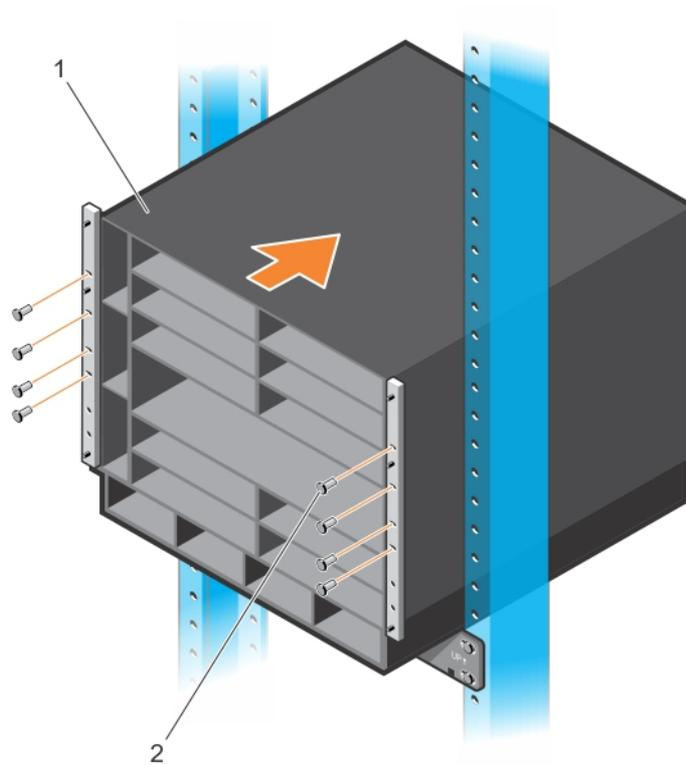

Figure 4. Mounting the Chassis into a 2-Post Rack
- 5 Use an equipment lift or two people to lift the empty chassis without blanks (item 1 in Figure 4) and align the rack-mount screw holes on each flange of the chassis with the holes in the equipment rack. Rest the chassis on top of the rack bar (or rack tray, if installed). Slide the chassis so that the holes in the side flanges align with the holes in the rack posts. Tighten four rack screws (item 2 in Figure 4) on each chassis flange to attach the chassis to the rack posts. Tighten each group of rack screws by starting with the bottom screw and working up.